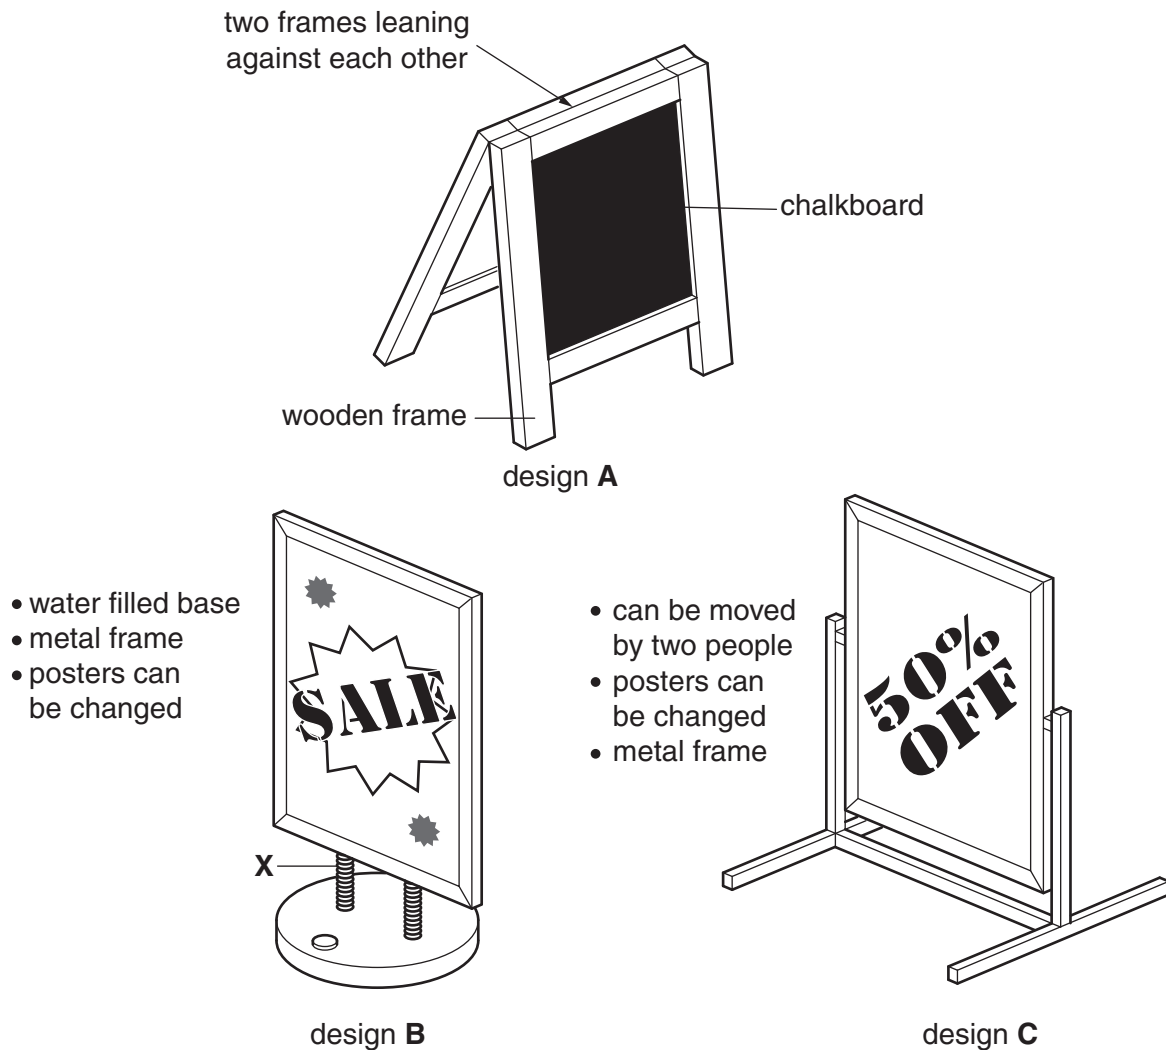

Fig. 6
- 6 Fig. 6 shows a range of designs for free-standing advertising boards. Businesses stand these boards outside their premises.